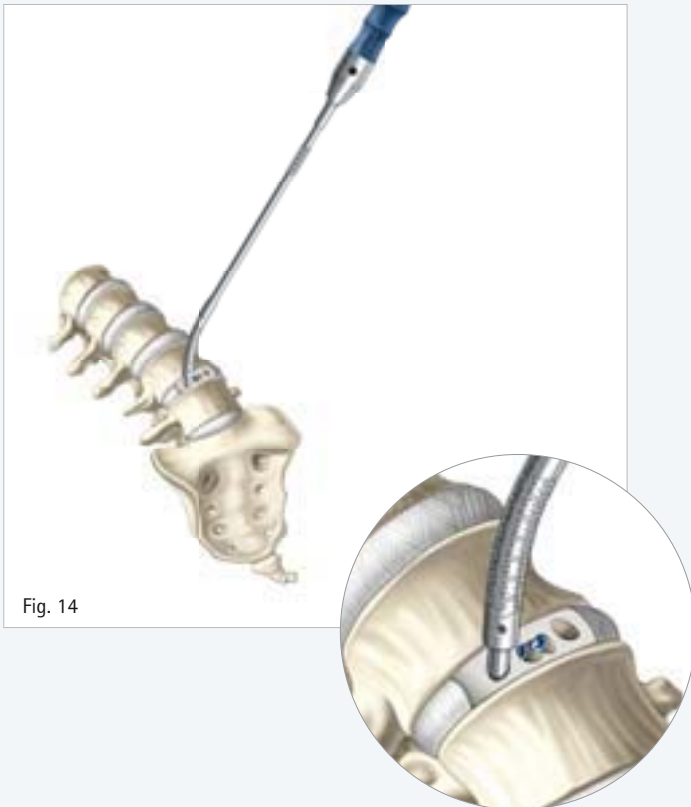

Fig. 14
- Guide the flexible bone awl into one of the lateral screw holes and insert until a hard stop is reached. A hard stop indicates that the flexible awl has punctured the cortical layer of bone (Fig. 14).